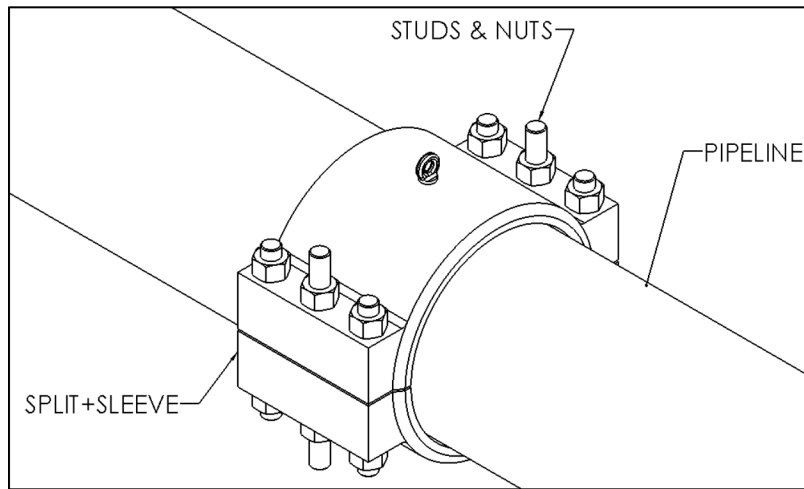
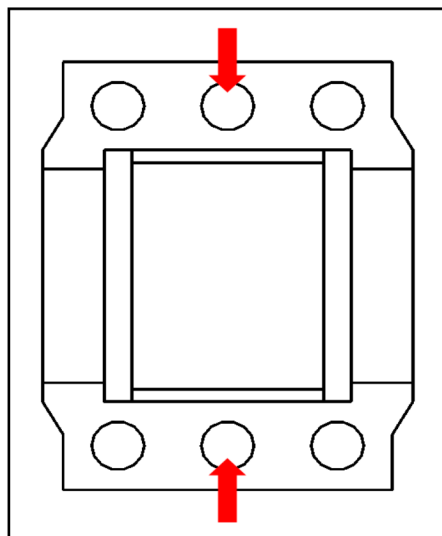
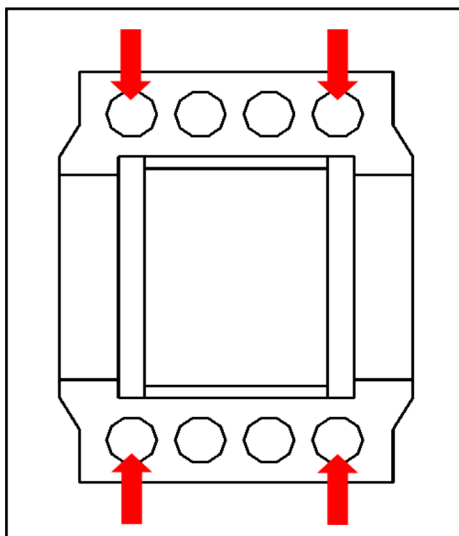

Figure 6
Figure 7
Figure 8
5. Install the studs and nuts through the holes in the Split+Sleeve as shown in Figure 6. Most Split+Sleeves will have two different stud lengths. Make sure the longer studs are in the proper holes. PLIDCO Split+Sleeves with 3 holes per side should have the longer studs in the two center holes (see Figure 7). Sleeves with more than 3 holes per side should have the longer studs in the four corner holes (see Figures 8).